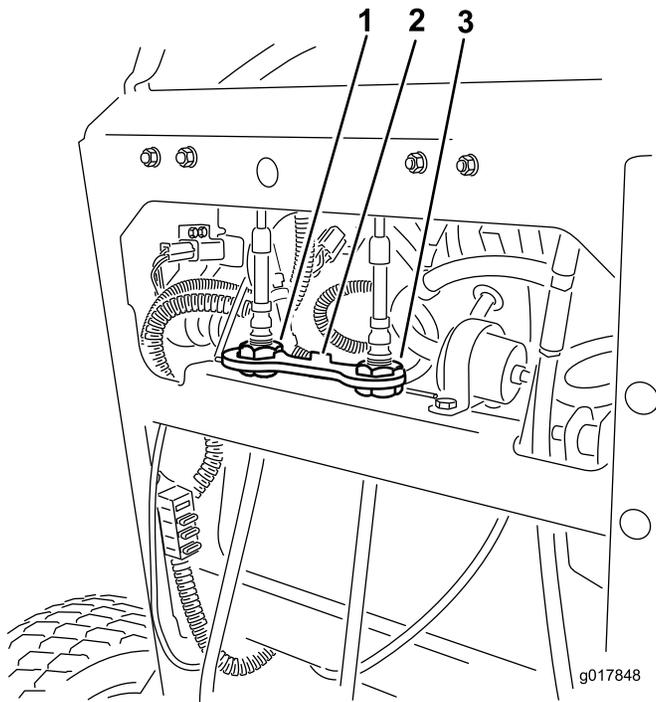

Figure 56
- Rotate the right cable adjustment to position the right motion control in the center of the control panel neutral-lock slot (Figure 56).